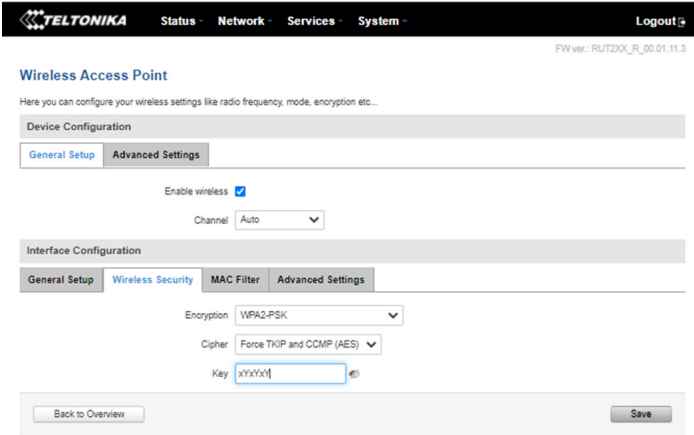

Figure 10 Save New WiFi Password
- c. Click **Save**. (Figure 10)